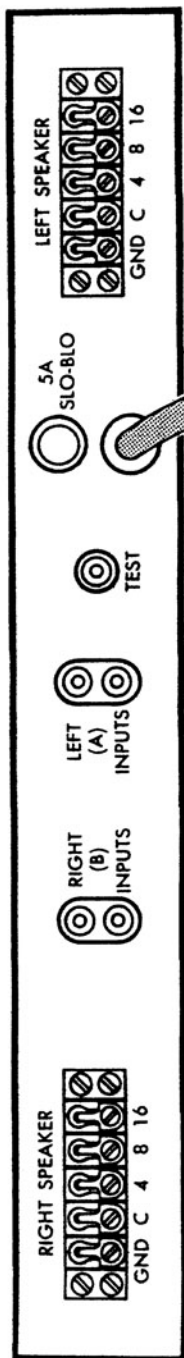

FIGURE 1. Rear panel.
**ONE SPEAKER:** If you are using only one speaker, it should be connected to the LEFT SPEAKER terminal strip on the rear panel. (See Figure 1.) One lead should be connected to the terminal lug marked C and the other to the terminal which matches the impedance of your loudspeaker. Use ordinary power cord, up to 50 feet in length, for these connections. For longer distances, use heavy-duty wire. Use of ordinary, thin "speaker wire" is definitely not recommended because of its relatively high resistance. *The Right Channel Input Attenuator should be turned to the OFF position, and left in this position until a speaker is connected to the RIGHT SPEAKER terminals.*